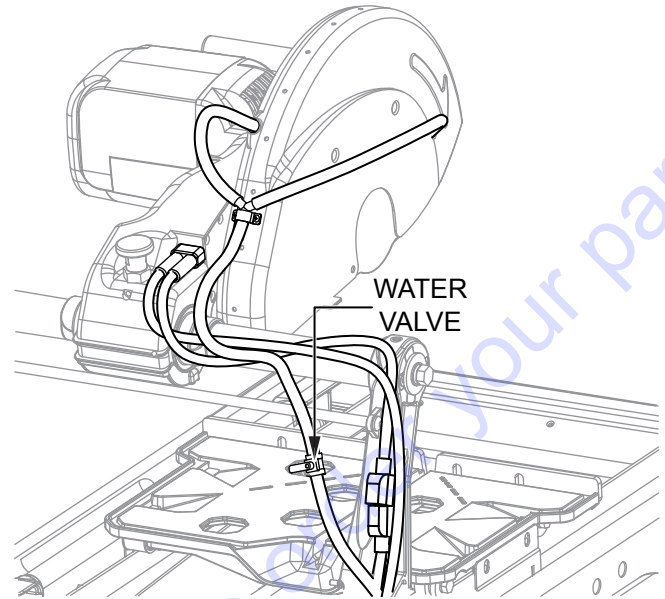

Figure 16. Water Valve Adjustment
4. If necessary, adjust the flow of water using the water valve at the rear of the saw (Figure 16).